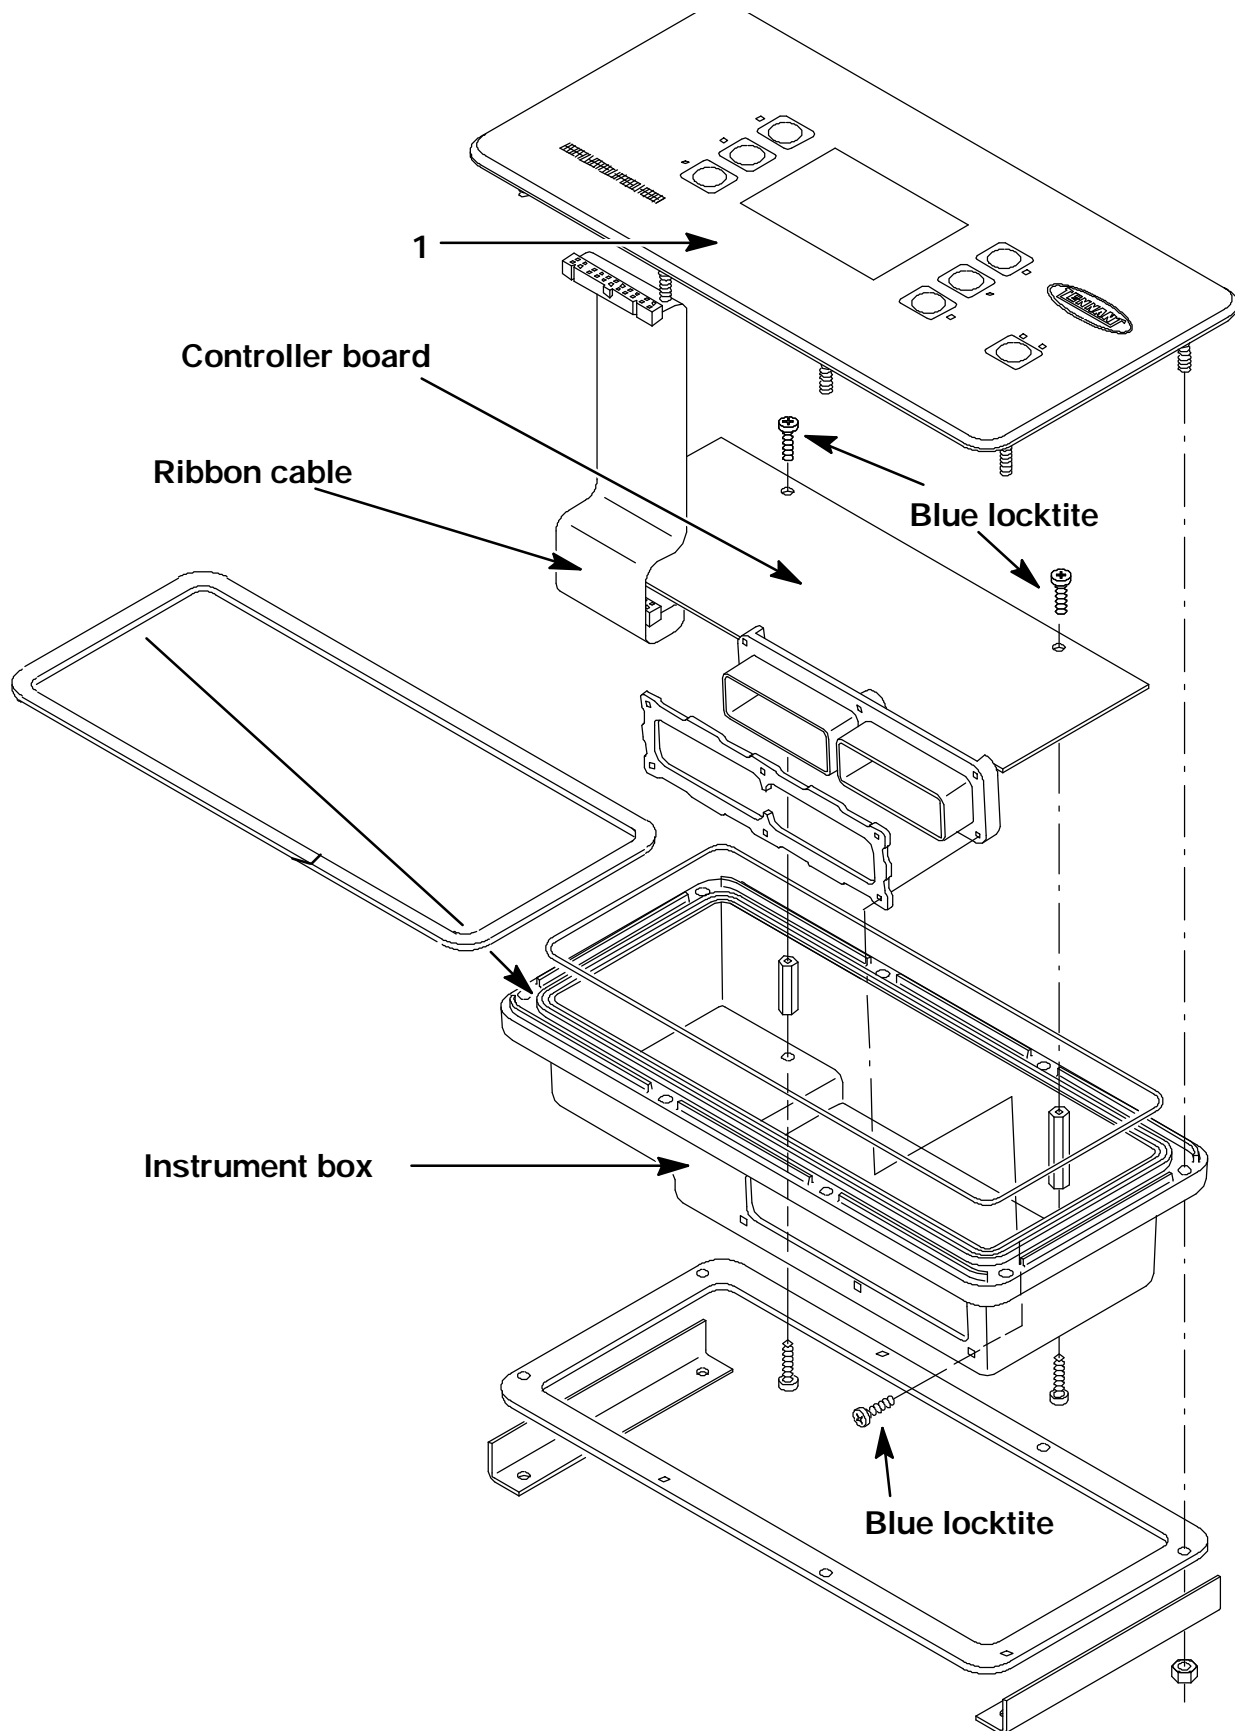

FIG. 1 - Instrument Panel Assembly Breakdown
(Refer to FIG. 1)
1. Remove and set aside all four 7mm mounting bracket nuts and both mounting brackets, so instrument panel assembly may be removed from the front. (Refer to FIG. 1)
5. Remove and set aside the last four securing nuts on bottom of assembly. (Refer to FIG. 1)
8. Separate touch panel from Instrument box, according to diagram. (Refer to FIG. 1)
9. Unplug the ribbon cable from the touch panel. (Refer to FIG. 1)
10. Plug the ribbon into the new touch panel. (Refer to FIG. 1)
11. Reassemble instrument panel assembly as shown in diagram. *Secure with hardware and blue locktite where indicated.* (Refer to FIG. 1)